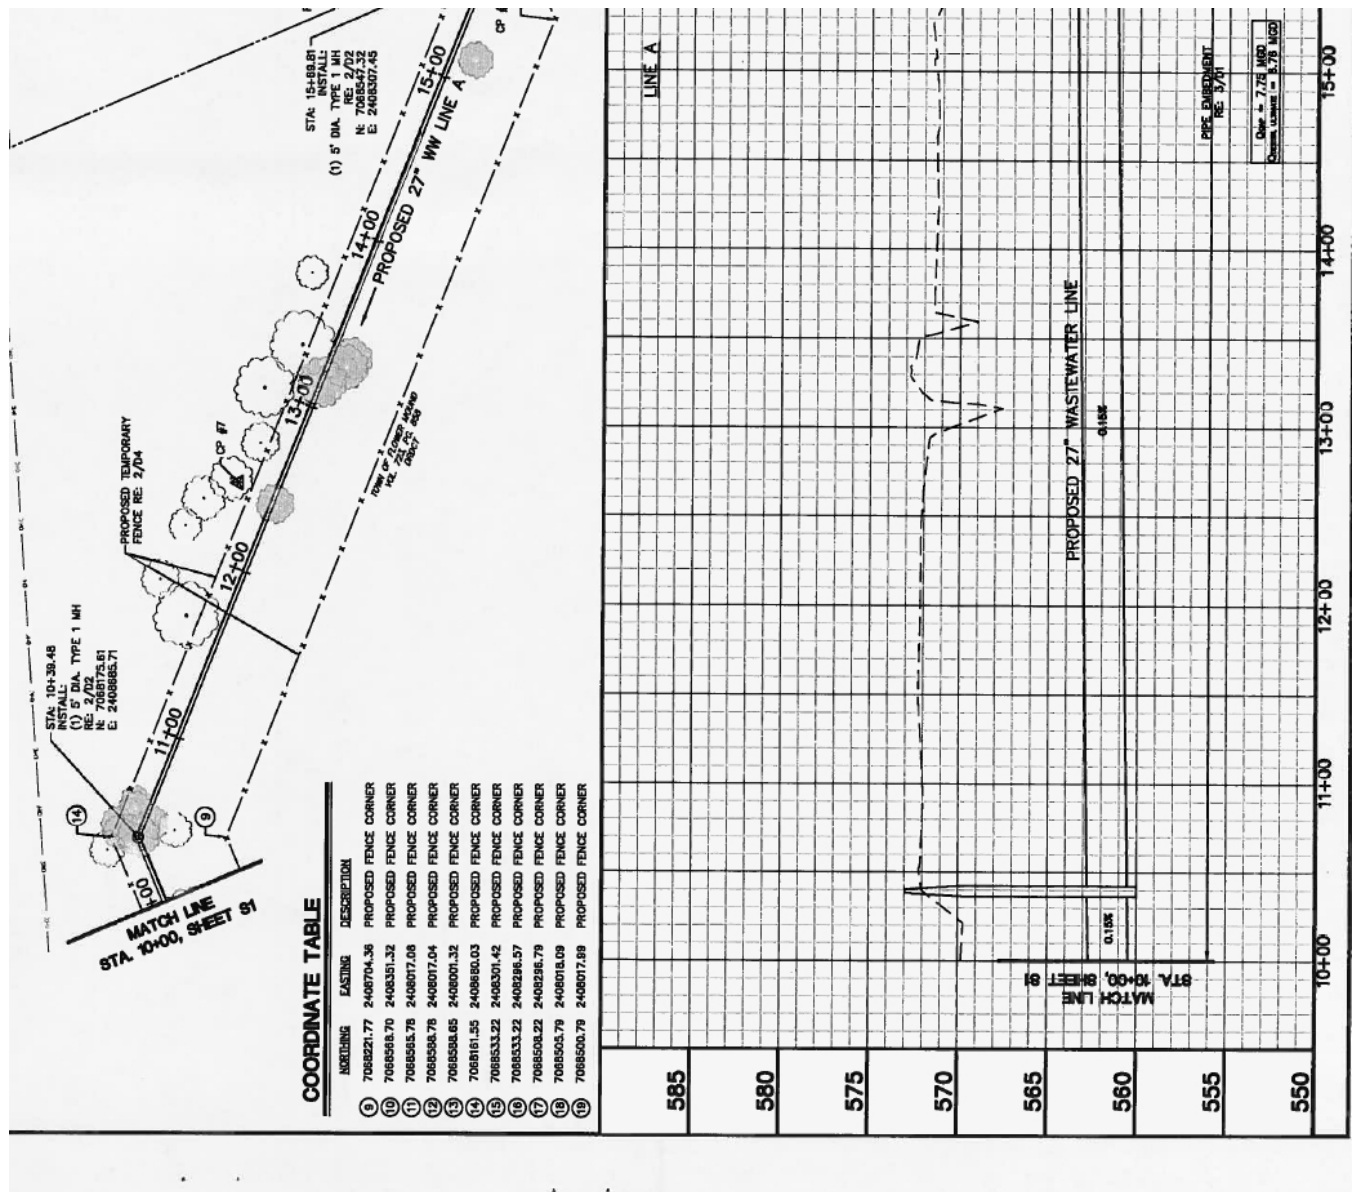

Figure 2: Engineering drawing of sanitary sewer system (display is rotated)
6. Figure 2 is a portion of an engineering drawing of a gravity-flow wastewater conduit.